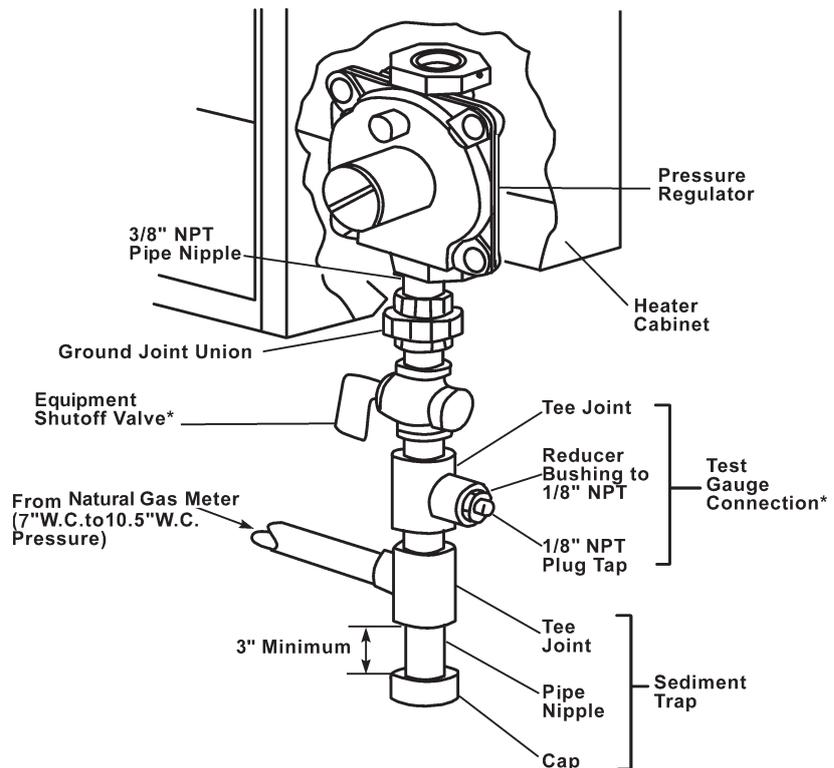

Figure 13 - Gas Connection
Installation must include an equipment shutoff valve, union, and plugged 1/8" NPT tap. Locate NPT tap within reach for test gauge hook up. NPT tap must be upstream from heater (see Figure 13).
Install sediment trap in supply line as shown in Figure 13. Locate sediment trap where it is within reach for cleaning. Locate sediment trap where trapped matter is not likely to freeze. A sediment trap traps moisture and contaminants. This keeps them from going into heater controls. If sediment trap is not installed or is installed wrong, heater may not run properly. **IMPORTANT:** Hold pressure regulator with wrench when connecting it to gas piping and/or fittings.
1. Close equipment shutoff valve (see Figure 13).